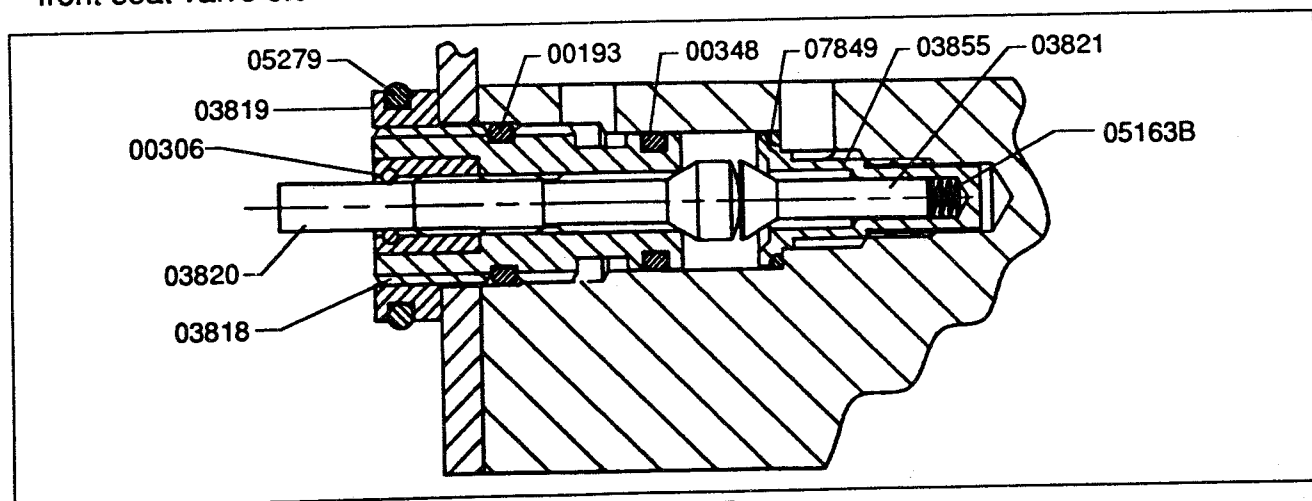

Figure 15
6.0 CONTROL KNOB/FRONT AND REAR SEAT VALVE DISASSEMBLY/ REASSEMBLY - FRONT OF MICROBLENDER (FIGURE 15)